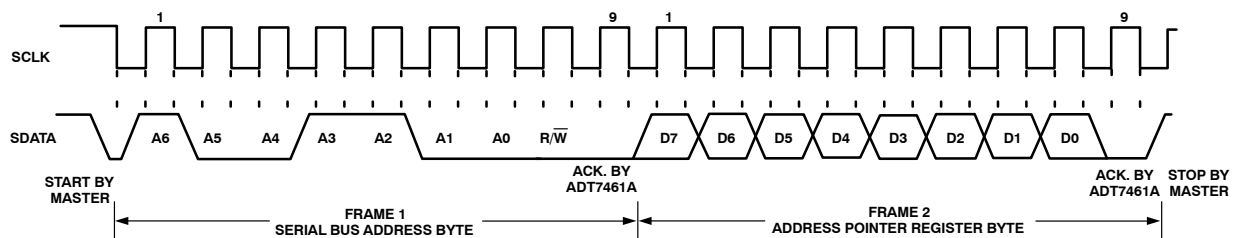
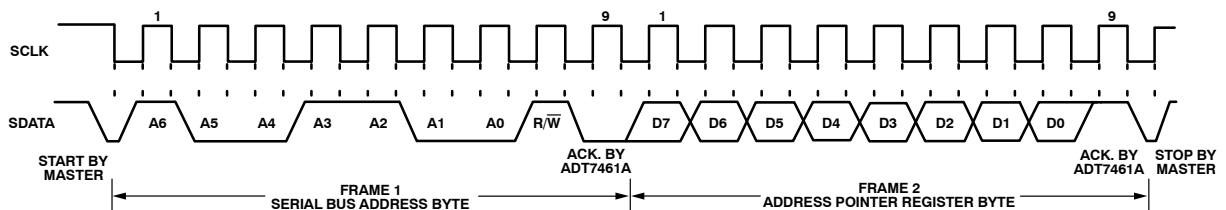

Figure 16. Writing to the Address Pointer Register Only
Figure 17. Reading from a Previously Selected Register
- If the address pointer register value of the ADT7461A is unknown or not the desired value, it is first necessary to set it to the correct value before data can be read from the desired data register. This is done by writing to the ADT7461A as before, but only the data byte containing the register read address is sent, because data is not to be written to the register see Figure 16. A read operation is then performed consisting of the serial bus address, R/W bit set to 1, followed by the data byte read from the data register see Figure 17.
- If the address pointer register is known to be at the desired address, data can be read from the corresponding data register without first writing to the address pointer register and the bus transaction shown in Figure 16 can be omitted.